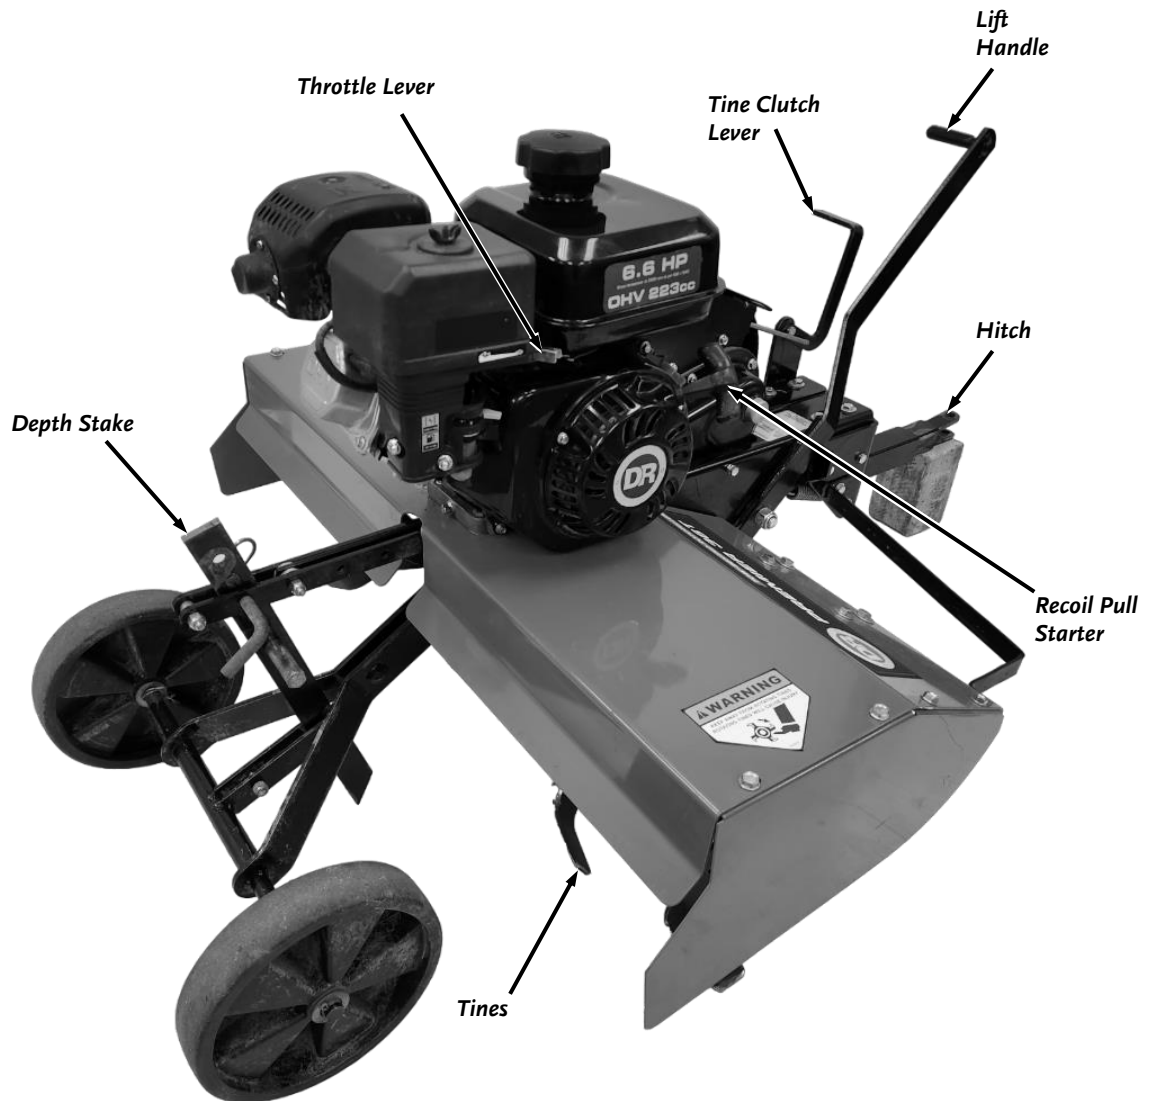

Figure 2
It may be helpful to familiarize yourself with the Controls and Features on your new machine by reviewing **Figure 2** before beginning the steps outlined in this chapter. For technical assistance, please visit our website at www.DRPower.com.
NOTE: The model shown in Figure 2 may look slightly different from your machine.
3. Push the Lift Handle back towards the engine (**Figure 2**).
7. Pull the Lift Handle Forward to lower the wheels (**Figure 2** on page7).